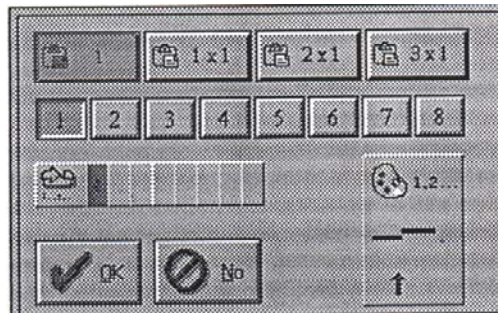

Fig.4. Selection of the needles [3]
- introduction of the needles in work, by selecting the needles and by choosing the structures (fig. 4.);